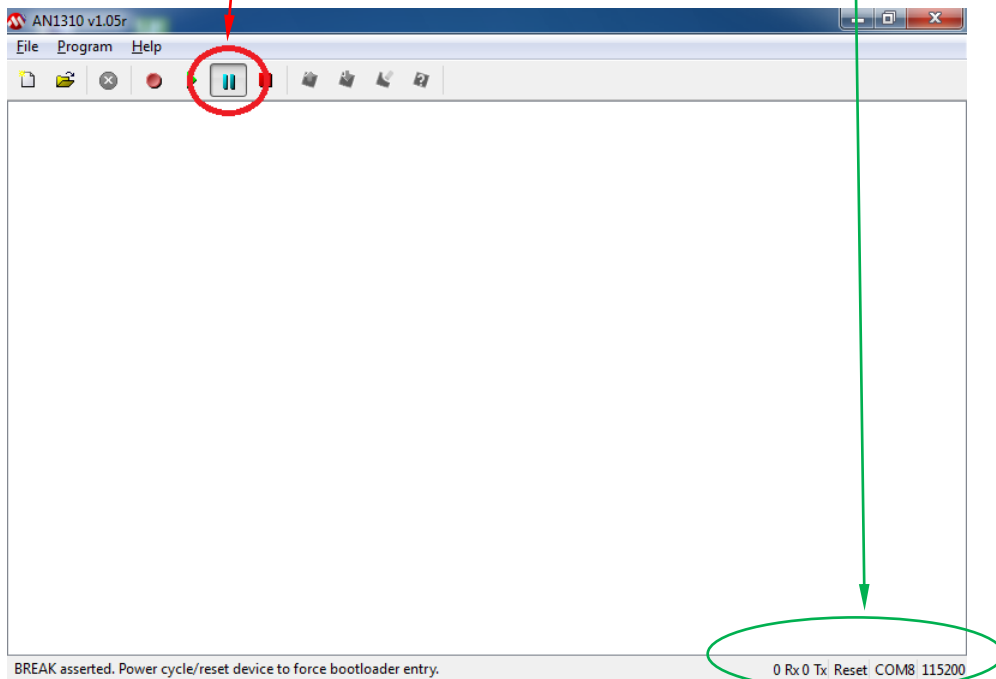

Figure 3.16
- 3. Press the blue **Break/Reset Mode** button (Figure 3.16). The bottom status bar will request resetting the SP-2000 board.